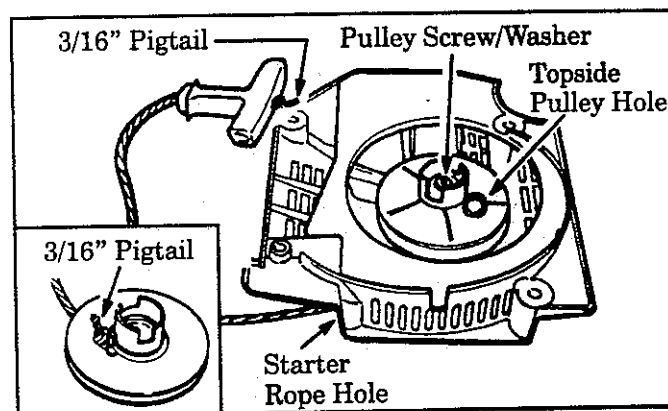

Figure 34
6. Remove the pulley screw/washer in the center of the pulley. Figure 34.
10. Feed the rope through the hole in the handle. Secure the rope with a knot, leaving about a 3/16" pigtail. Figure 34.
11. Feed the rope through the round starter rope hole in the fan housing. Figure 34.
12. Guide the rope inside the pulley, then up through the pulley hole to the outside. Figure 34. Secure the rope with a knot, leaving about a 3/16" pigtail. Figure 34 (inset).